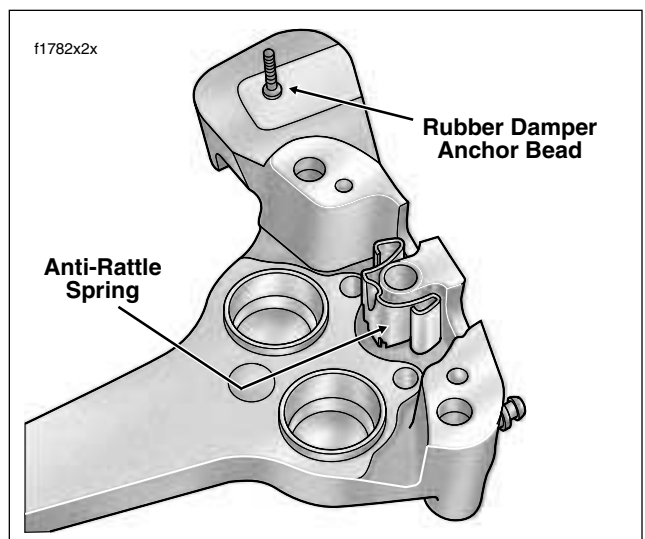

Figure 2-71. Install Anti-Rattle Spring
- b. Place outside caliper housing on workbench with decal side down. Place anti-rattle spring in channel around boss. Spring is not directional. See Figure 2-71.
- e. If rubber damper was removed, lubricate anchor of **new** damper with isopropyl alcohol or glass cleaner and install by pulling rubber bead through hole in outside caliper housing, as shown in Figure 2-71.
If pad pins do not fit, verify the following: (1) Proper pad set is being used, not two identical pads. (2) Anti-rattle spring is installed as shown in Figure 2-71. (3) Pads are pushed tight against anti-rattle spring.